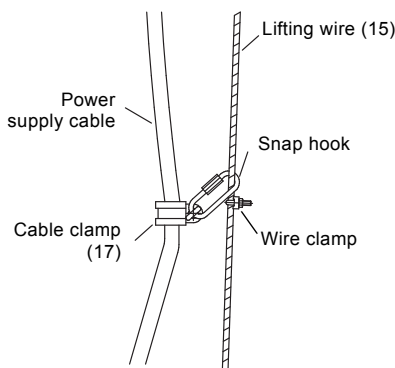

Fig. 9 Attaching the power supply cable to the lifting wire
15. Mount the lifting wire (15) on the motor bracket using the shackle. See fig. 9.
16. Mount the top end of the safety wire to the hole (31) of the top fixation bracket using a shackle. The other end of the safety wire ends in a shackle through which the lifting wire must run.
17. Fix the power supply cable to the lifting wire by means of a cable clamp approx. 0.8 m above the mixer. This will prevent the cable from falling down and becoming entangled in the propeller during operation. Connect the cable clamp to the lifting wire above the wire clamp by means of a snap hook. See fig. 9. Attach the power supply cable to the lifting wire by means of cable clamps placed at 1 m intervals.